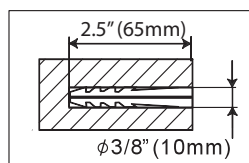
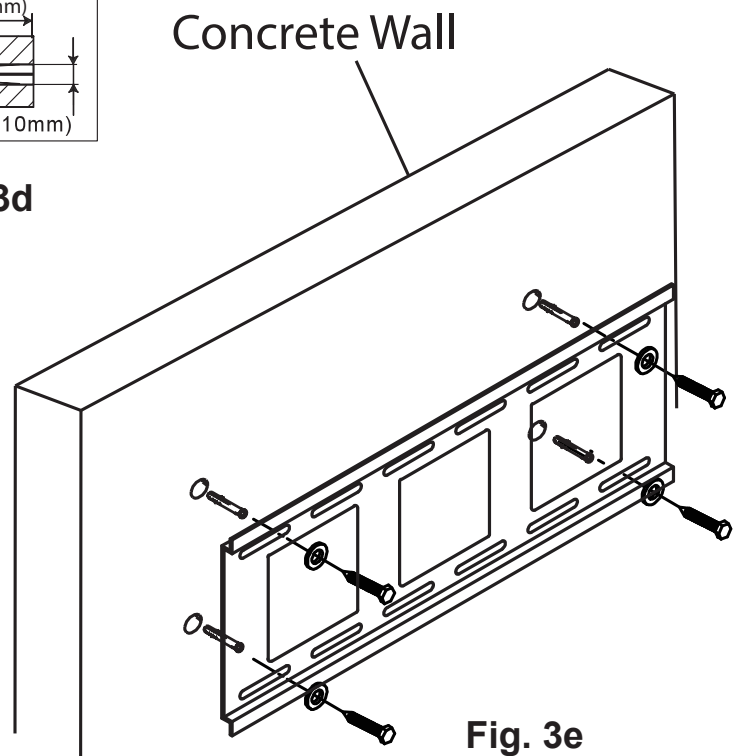

Fig. 3d
Fig. 3e
2. Use 3/8" (10mm) drill bit to pre-drill four holes at least 2.5" (65mm) deep (Fig 3d) at the marked locations.
3. Insert a Wall Anchor (O) into each pre-drilled hole and lightly tap it with a hammer until the wall anchor is flush with the wall.
4. Use a wrench, the four Long Bolts (N) and Washers (P) to attach the wall mount to the wall with the wall anchors (Fig. 3e).